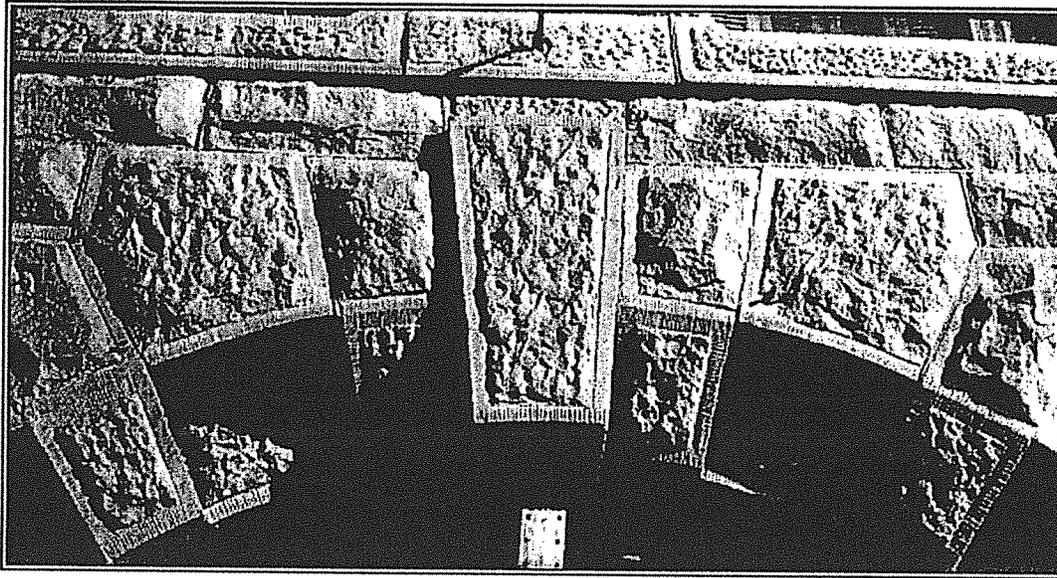

Figure 7: The original texture of these sandstone blocks on City Hall would be lost if they were covered with stucco.
6) MATERIALS--Building materials will be of appropriate dimensions, texture and color to blend with and complement existing materials on the adjacent buildings and other buildings in the same block. Inappropriate cladding materials include artificial brick siding; artificial cast stone; brick veneer; vinyl, steel and aluminum siding; and stucco over original sandstone. See Figure 7.